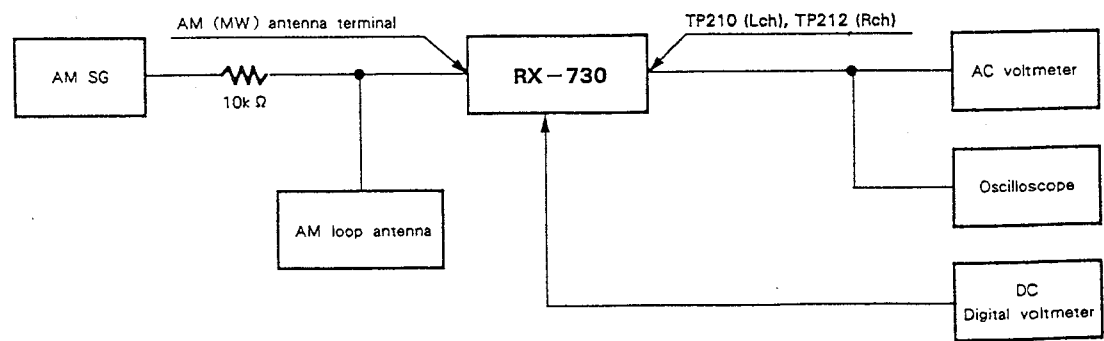

Fig. 5-6 AM adjustment wiring diagram
- Make the wire connections as shown in Fig. 5-6.